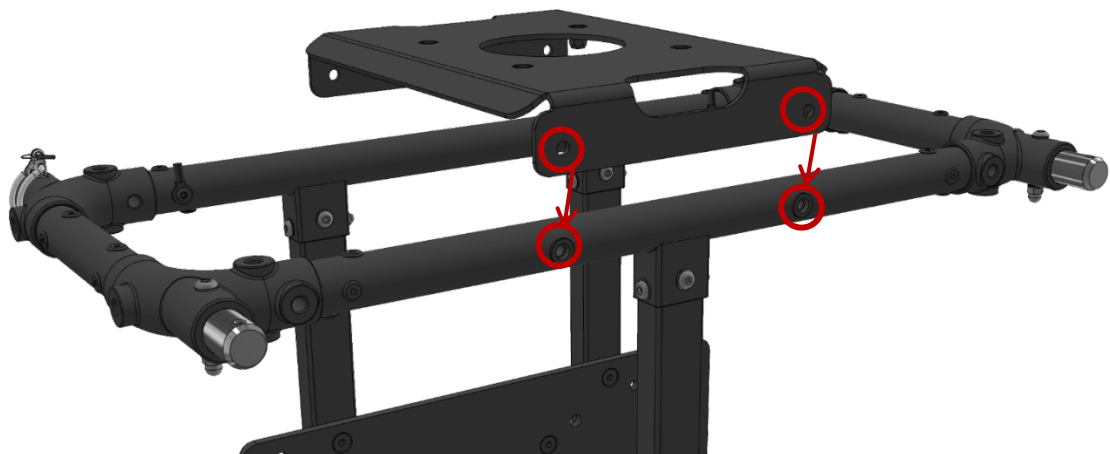

Figure 36 Positioning the ECO-ABP-EP1.0 over the ECO-FRAME-EP1.0
Step 1: Position the ECO-ABP-x on the side of the ECO-FRAME-x so that the four mounting holes align with the M6 threaded holes on the frame as can be seen in Figure 36.